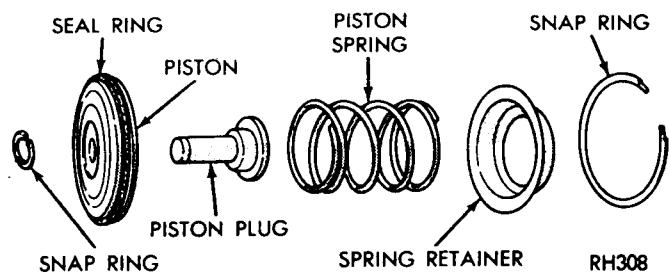

Fig. 44—Low-Reverse Servo
- (1) Remove snap ring from piston and remove the piston plug and cushion spring (Fig. 44).
(1) Carefully work servo piston assembly into the case with a twisting motion. Place spring retainer, and snap ring over the piston (Fig. 44).
(2) Compress low-reverse servo piston spring by using engine valve spring compressor Tool C-3422A, then install snap ring.